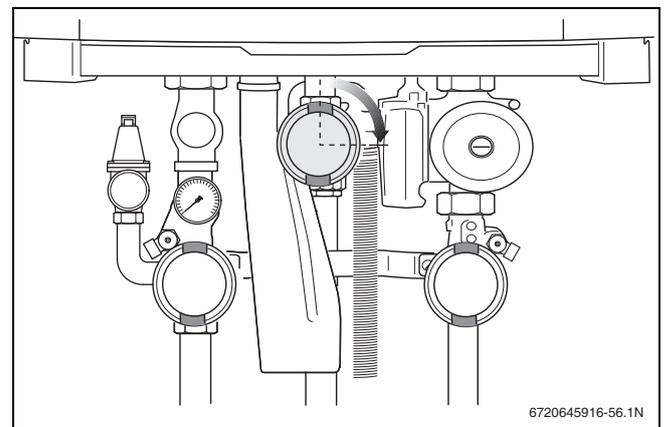

Fig. 60 Closing the gas valve
- ▶ Close the gas valve (→ fig. 60).
- ▶ Close the gas shutoff valve when no more air is present (→ fig. 60).